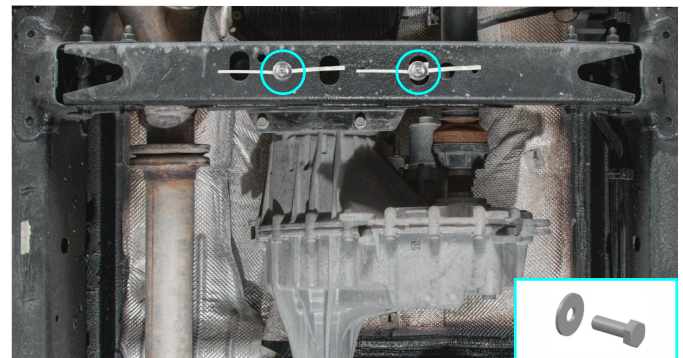

Fig. 4
4. Loosely insert supplied bolts M10x30 with penny washers M10 (items C, D) to insert nuts M10 (item A) (fig.4).